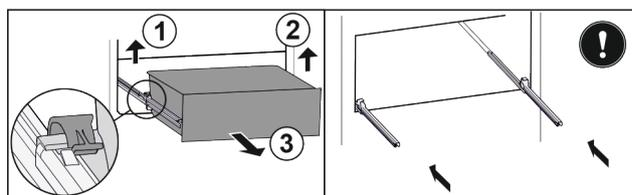

Fig. 32\*
- ▶ Lift the left clamp and simultaneously pull the drawer on the left forwards Fig. 32 (1).\*
- ▶ Lift the right clamp and simultaneously pull the drawer on the right forwards Fig. 32 (2).\*
- ▶ Take out the drawer to the front Fig. 32 (3).\*